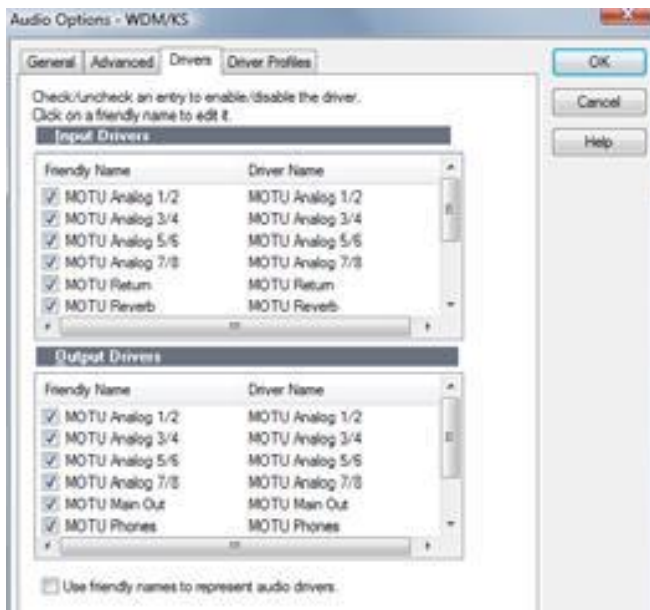

Figure 8-3: Activating the MOTU Audio WDM driver in SONAR by highlighting UltraLite-mk3 inputs and outputs.
- 3 Check the UltraLite-mk3 inputs and outputs that you wish to use and uncheck the ones you don't as shown in Figure 8-3.